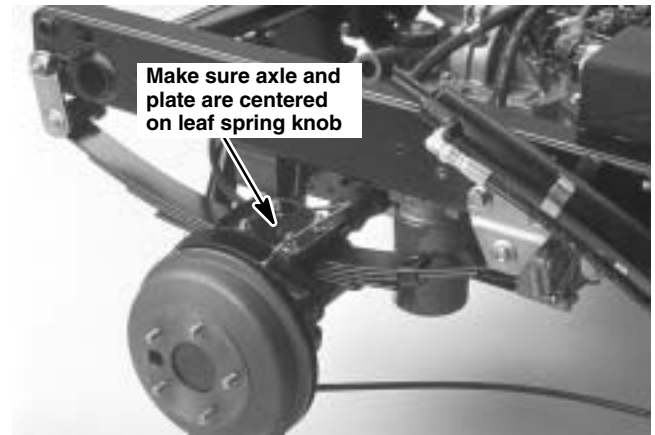

Figure 26
1. Before installing new leaf spring, insert four (4) rubber bushings (Item 3) into leaf spring. Insert two (2) rubber bushings into frame side rail.
2. Insert one (1) spring shackle (Item 2), from inside/out, into rear of leaf spring. Insert spring mount (Item 11), from outside/in, to front of leaf spring and secure, finger tight, with lock nut.
4. Install spring plate (Item 8) to top of spring, then secure axle to spring with carriage bolts (Item 14), washers (Item 7) and lock nuts (Item 6). **NOTE:** Make sure axle and plate are centered on leaf spring knob (Fig. 26).